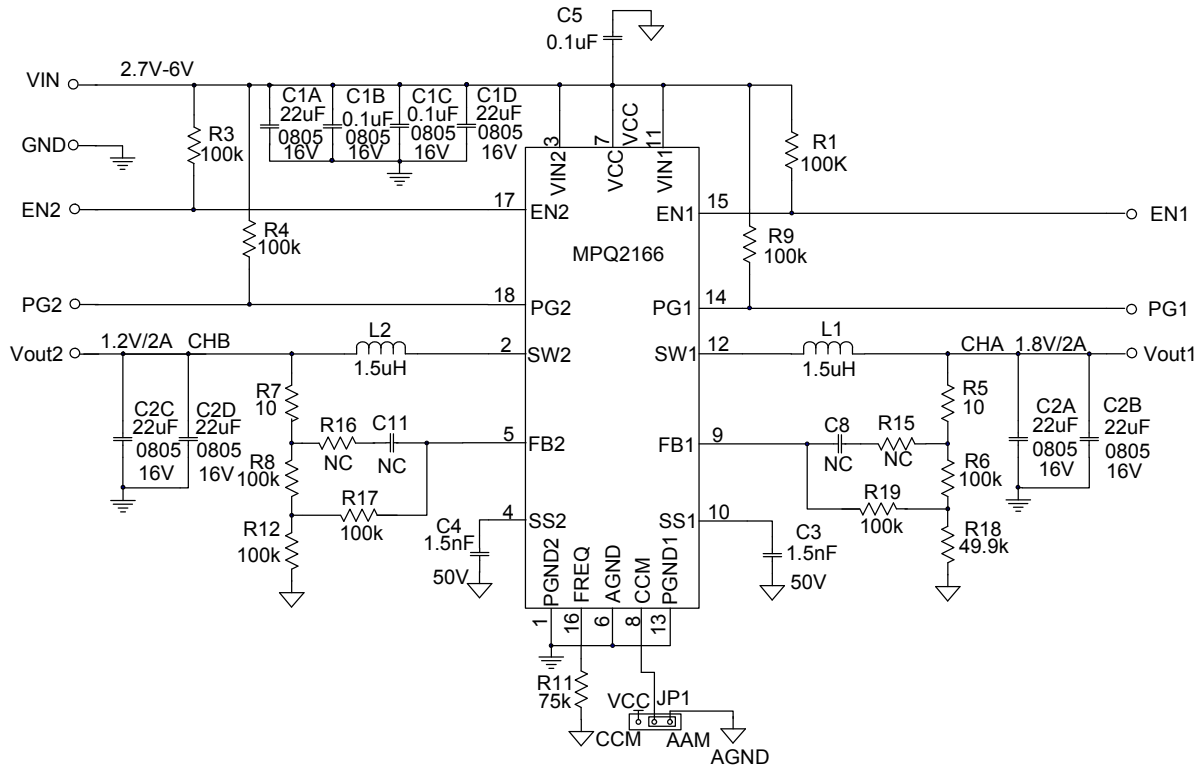

Figure 7: 2A/2A Application Circuit
5) The recommended PCB layout is based on Figure7